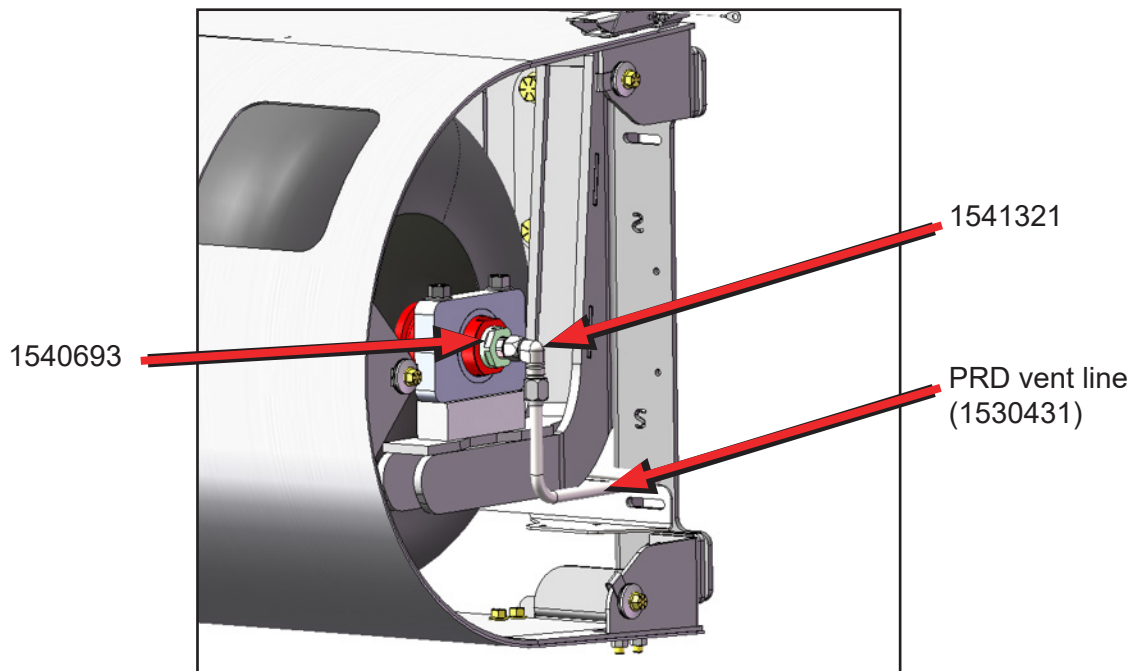

Figure 5
9. Install the new PRD plug (1540693) and 90-degree fitting (1541321) (Figure 5). Adjust the PRD vent line to connect to the 90-degree fitting.